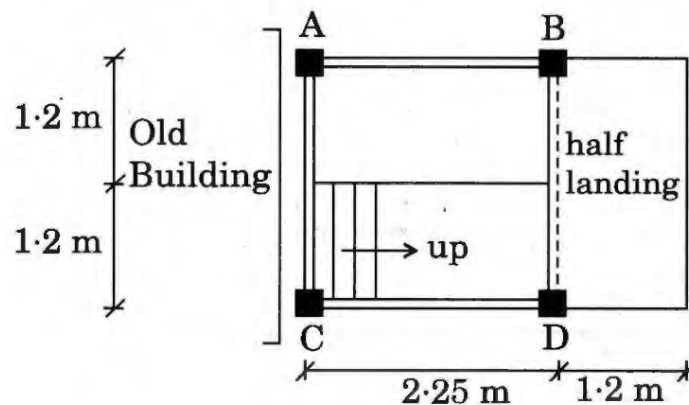

Figure 11
- (b) A separate two-flight staircase is to be constructed for an old residential house as shown in Figure 11. The floor-to-floor height of the building is 3 m. There are 10 nos. of risers of each 150 mm and treads of 250 mm. Four columns are located at A, B, C, D. The beams AB, CD and AC are located at floor level and the beam BD is located at half landing level. The thickness of waist slab and the landing is 150 mm. Live load = 3 kN/m². Half landing slab is cantilevered from the beam BD. Neglect the line load along the edge of the half landing. Draw the bending moment diagram for the flight for design purpose. 20